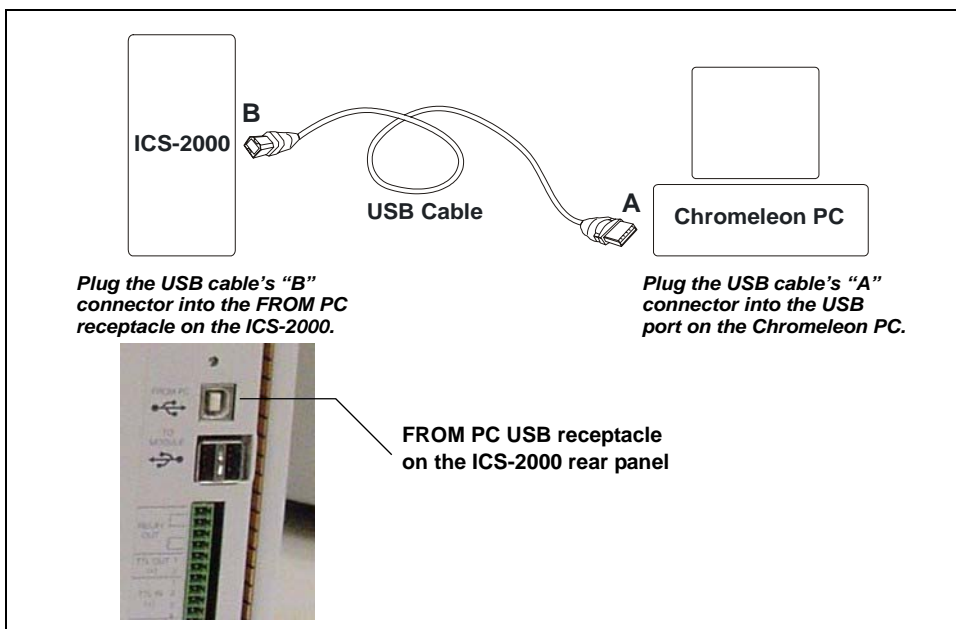

Figure 9. Example Connections: One ICS-2000 Connected to the Computer
2. Plug the cable's "A" connector into a USB port on the Chromeleon PC and plug the cable's "B" connector into the USB receptacle (labeled **FROM PC**) on the ICS-2000 rear panel (see Figure 9).